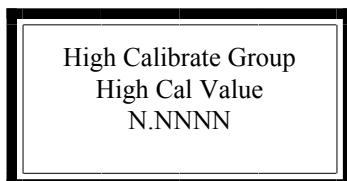

Figure 10b: Entering the High Calibration Value.
3) Toggle the "Prev" key until you reach "High Cal Value Value" Menu, Figure 10b, and set the value to the desired High Cal Value. (See pages 1-3 on modifying Menu Variables).